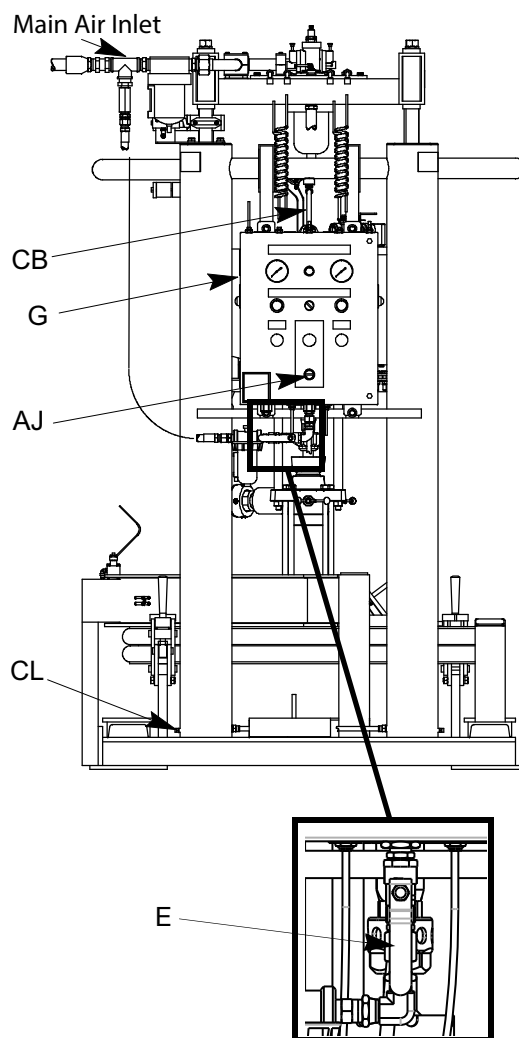

FIG. 11
At the Pneumatic Logic Panel (G) (FIG. 11), perform the following steps:
1. Close the Main Air Inlet Valve (E). See FIG. 11.
3. Once both safety hitch pins (806) are secured, adjust the RAM DOWN air regulator to 0 psi and move the RAM POSITION Switch to the LOWER position. Allow time for the ram to lower until it is resting on the safety pins. See FIG. 11 on page 29.